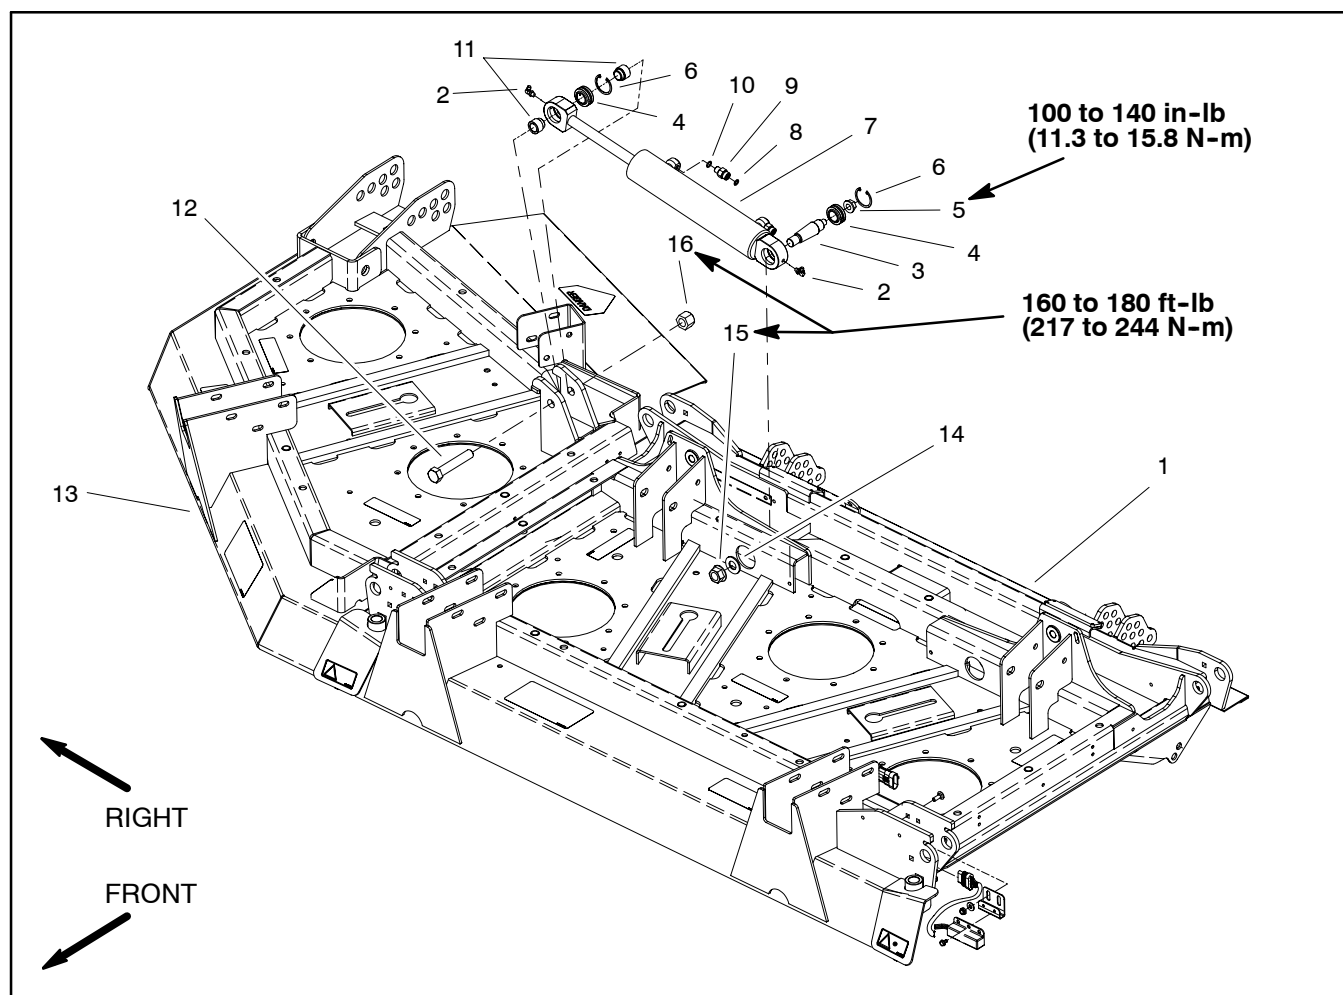

Figure 80
**Removal (Fig. 80)**
**Installation (Fig. 80)**